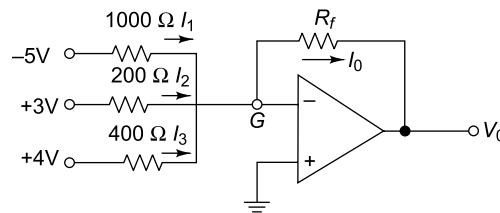

Fig. 5.102
1. Find the output voltage V_o of the three input summing amplifier circuit of the following Fig. 5.102. [WBUT-2003]
Figure 5.102 shows the 3-input summing amplifier. The input resistances are $R_1 = 1000 \Omega$, $R_2 = 200 \Omega$ and $R_3 = 400 \Omega$. The corresponding input voltages are $V_1 = -5 \text{ V}$, $V_2 = +3 \text{ V}$ and $V_3 = +4 \text{ V}$. The feedback resistance is R_f and output voltage is V_o .